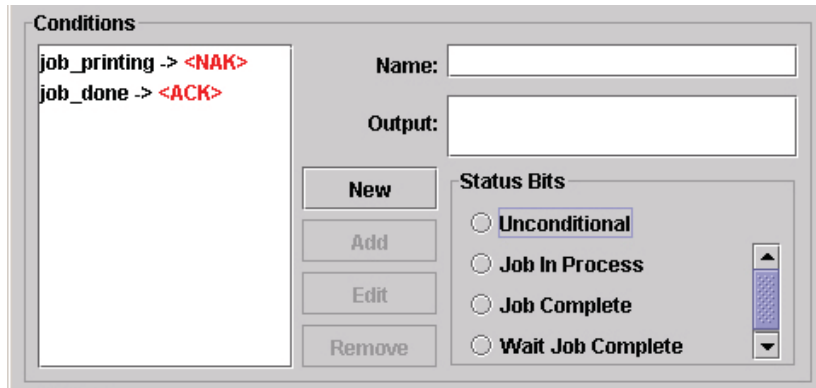

Figure 168 Adding Conditions
8. Click **Add** to add the entry to the list of protocol conditions. See Figure 168.